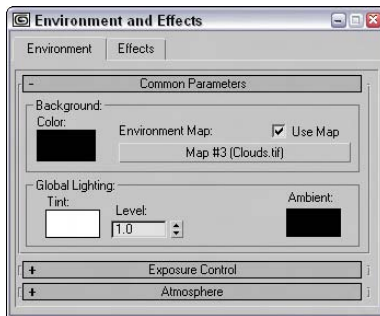

Figure QS-7: Use the Environment dialog box to set environment properties, such as a background image.
4. Click Open to load the background image. When loaded, the image's filename appears on the button in the Environment panel, as shown in Figure QS-7. Click the close icon in the upper-right corner of the Environment dialog box to close it.